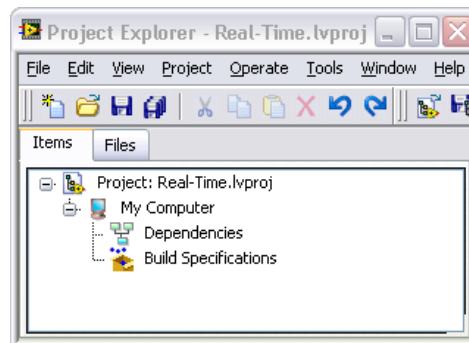

Figure 2-8. Real-Time LabVIEW Project
2. Referring to Figure 2-8, under which node do you add a CompactRIO target?